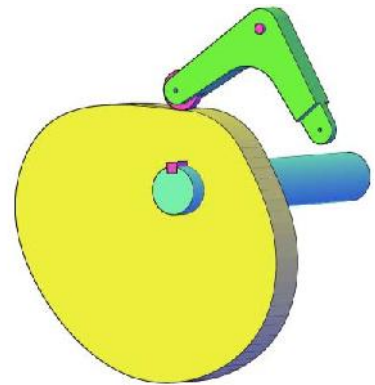

Figure 4a
4. A disc cam, radial arm and roller follower are illustrated in Figure 4a. The follower is constrained to oscillate an angle of 60° to give a maximum lift. The specification of the motion is as follows: